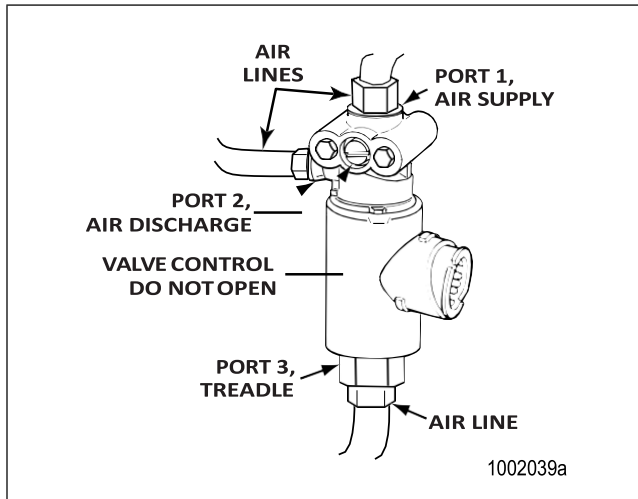

Figure 4.14
6. Disconnect the air line from Port 1 (Air Supply), Port 2 (Air Discharge) and Port 3 (Treadle) of the front axle active braking valve (solenoid valve). Figure 4.14.